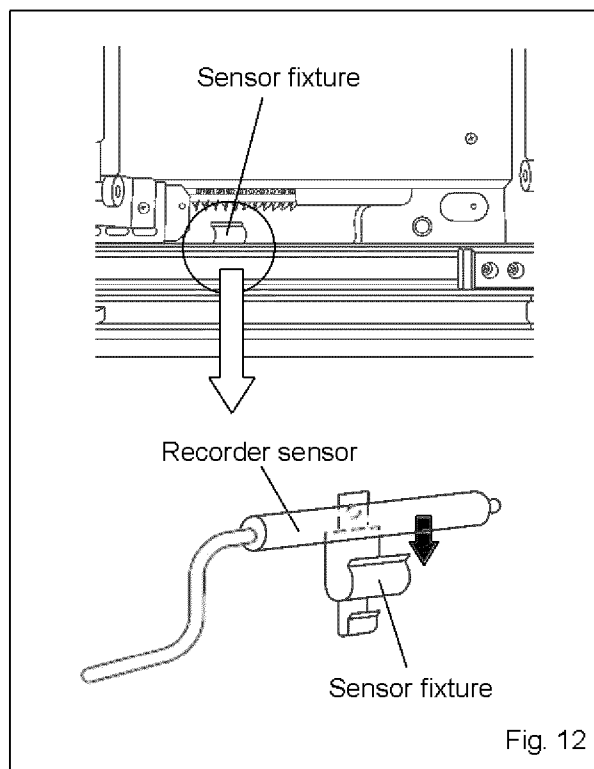

Fig. 12
7. Fix the recorder sensor to the sensor fixture. [Fig. 12]